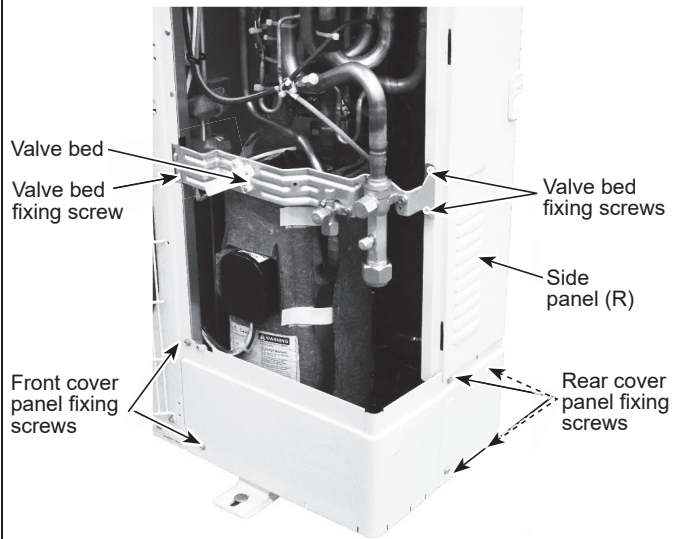

Figure 2
- (1) Remove the service panel. (See Photo 1)
- (2) Remove the top panel. (See Photo 1)
- (3) Remove the cover panel (front). (Refer to procedure 8(5))
- (4) Remove the cover panel (rear) (Refer to procedure 8(6))
- (5) Remove the side panel (R). (Refer to procedure 8 (7))
- (6) Remove 2 front cover panel fixing screws (5 × 12) and remove the front cover panel. (See Photo 4)
- (7) Remove the electrical parts box. (See Photo 5)
- (8) Remove the valve bed. (Refer to procedure 8 (4))
- (9) Remove 3 separator fixing screws (4 × 10) and remove the separator. (See Figure 2)
- (10) Remove the comp felt covering the compressor, and remove the thermistor <Compressor> (TH4), thermal protector (TRS), and the lead wires. (See Photo 7 and 14)
- (11) Recover refrigerant.
- (12) Remove the 3 compressor fixing nuts for motor using spanner or adjustable wrench.
- (13) Remove the welded pipe of compressor inlet and outlet and then remove the compressor.